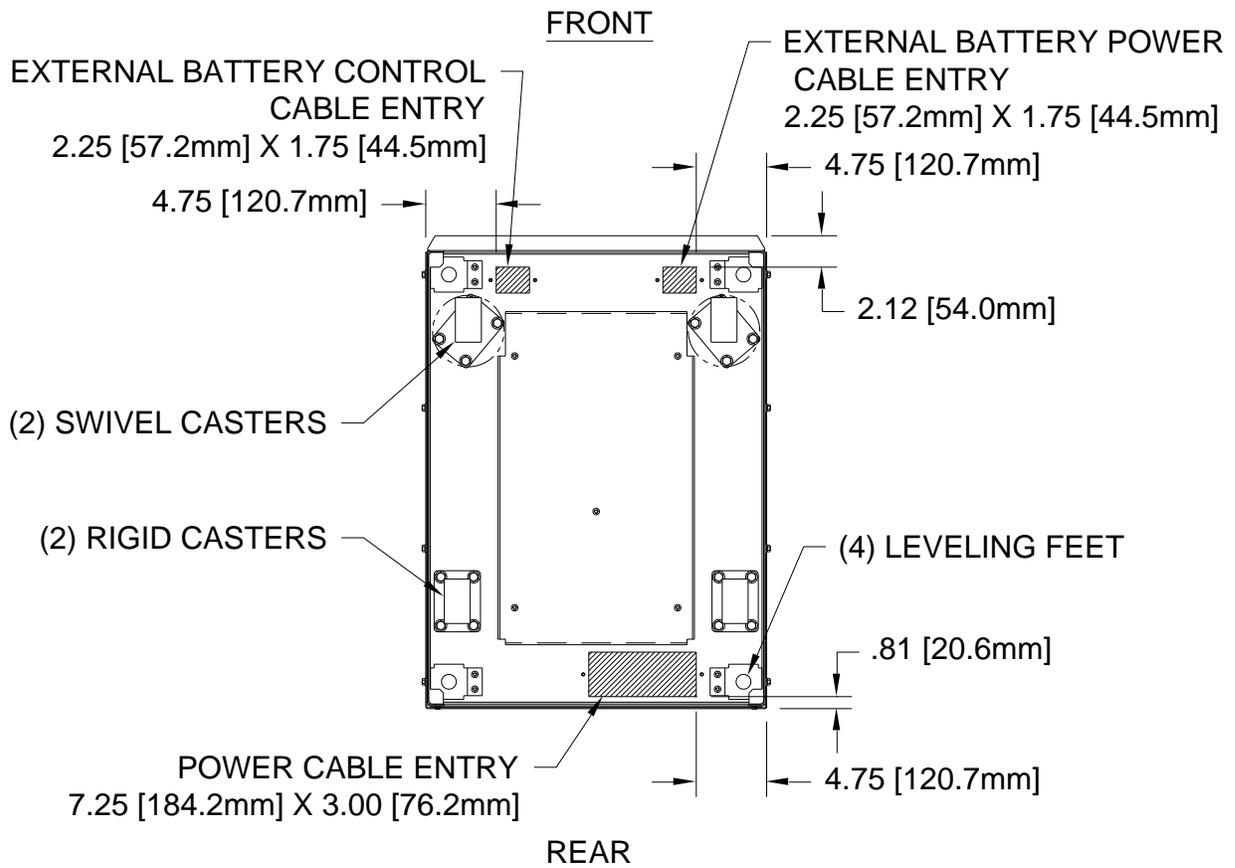

Figure 6 - Bottom View
6. Conduit landing plates are located at the rear bottom of the base to accommodate bottom wire entry to the cabinet (see figure 6).